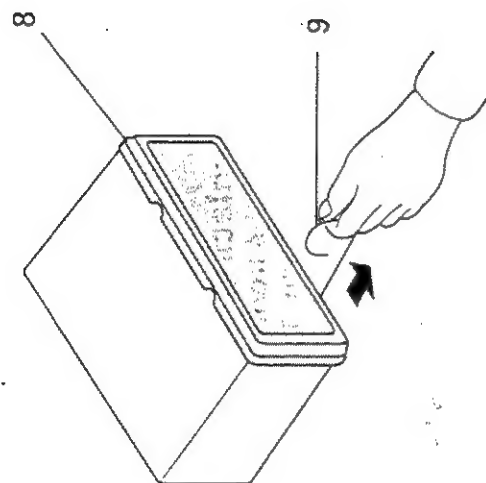

Fig. 11
1. Remove the frame. (Fig. 11)